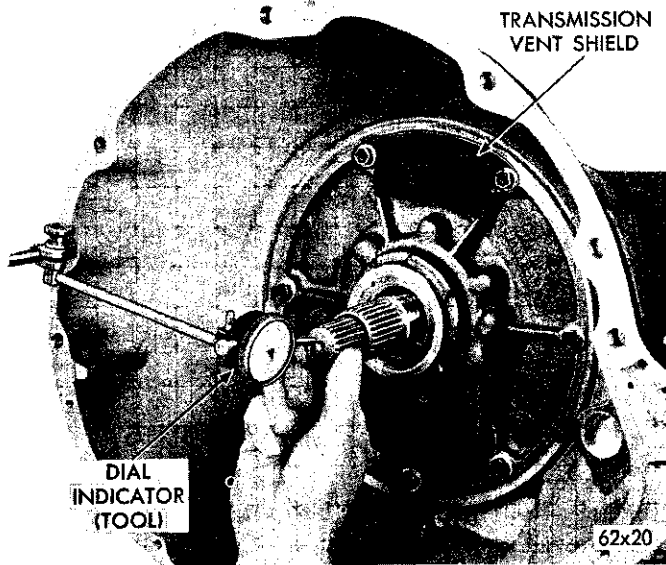

Fig. 52—Measuring Drive Train End Play
(1) Attach a dial indicator to the transmission bell housing with its plunger seated against the end of input shaft (Fig. 52).
(2) Chuck the input shaft in and out to obtain the end play reading.
(3) Record the indicator reading for reference when reassembling the transmission. The end play specifications are .030-.069 inch.